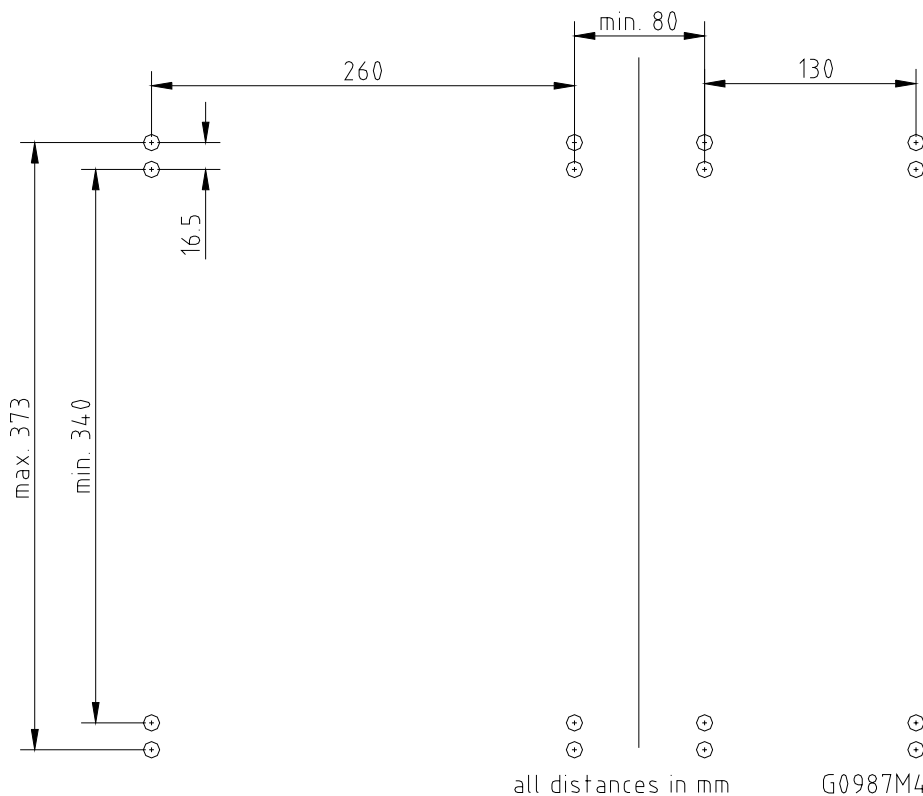

figure 3-1 Positions of drilling holes
- Mark the position of the eight drilling holes (four per unit) for the Node C and Interface Unit according to *figure 3-1*. Please observe that the figure always shows a pair of drill holes for each position. Only drill one of each pair.